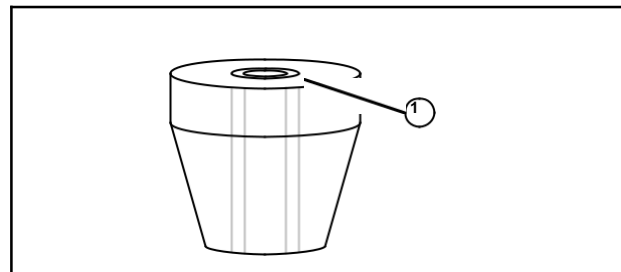

Fig. 11
NOTE: Tool #19191 (1), Pilot Bushing, can be modified to provide more accurate alignment with the valve seat. Counterbore with Tool #19064, Counterbore Reamer. Use #19367 Driver to press in bushing Part #63709, and finish ream with Tool #19066, Finish Reamer, Fig. 11.
11. Finish ream bushing with Tool #19066, Finish Reamer, and Tool #19191, Reamer Guide Bushing, (modified), Fig. 11.